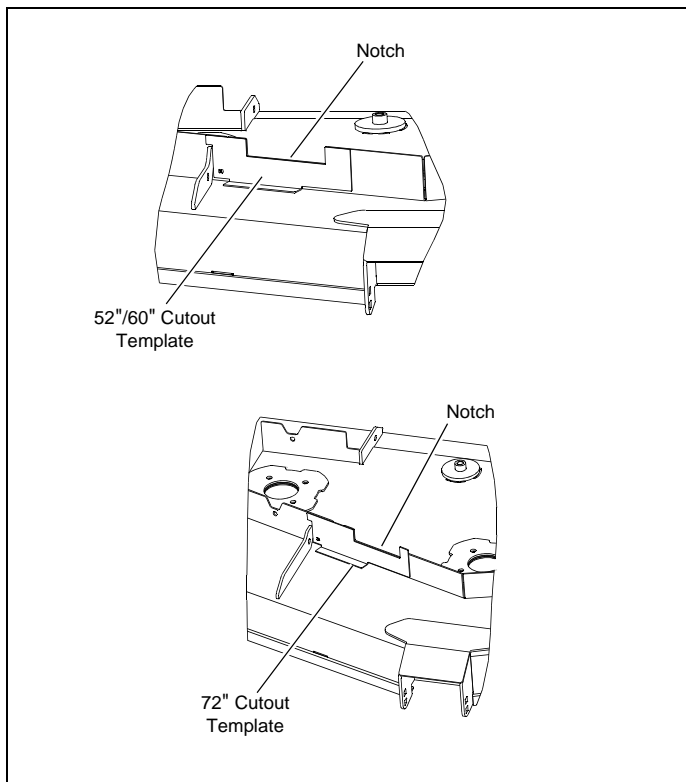

Figure 3-1
8. Place the cutout template on the deck and mark the notch outline on the deck wall. Remove the template. Figure 3-1
9. Cut out the notch on the deck. Remove any sharp edges or burrs. Figure 3-1